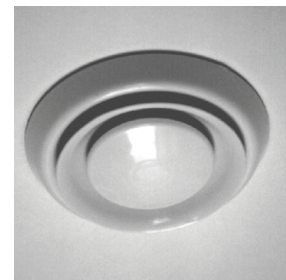

Fig. 7
Step 4: Connect inlet grille(s) (Fig. 7). An optional backdraft damper may be installed in the inlet grille to prevent cold air from backing into the inlet, prevent conditioned air from escaping and also prevent condensation from forming inside the ductwork. Backdraft dampers are highly recommended at each intake grille for bathroom ventilation in all cold climate installations.